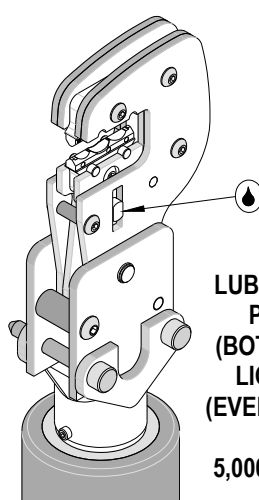

Figure 7A
3. Make certain all pins; pivot points and bearing surfaces are protected with a thin coat of high quality machine oil. Do not oil excessively. The tool was engineered for durability but like any fine piece of equipment it needs cleaning and lubrication for a maximum service life of trouble free crimping. Use a 30 weight automotive (light) oil used at the oil points, every 5,000 crimps or 3 months, shown in Figure 7A or 7B will significantly enhance the tool life.